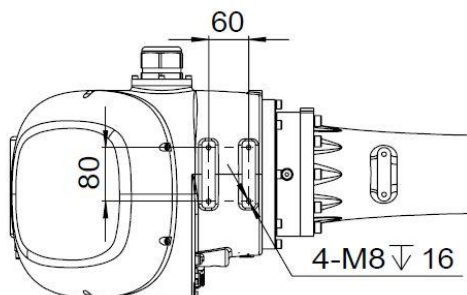

Figure 7-19 Medium load elbow load interface dimension diagram
- The position of center of mass of elbow load shall be located in the area of 80mm × 60mm as shown in Figure 7-19.